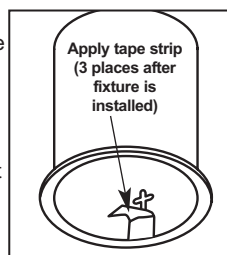

Figure 5
**Step 5.** Apply tape strips over each of the three retention clips and slots. Cover completely with the tape strips. Use the supplied strips, do not substitute with duct tape (Fig. 5).